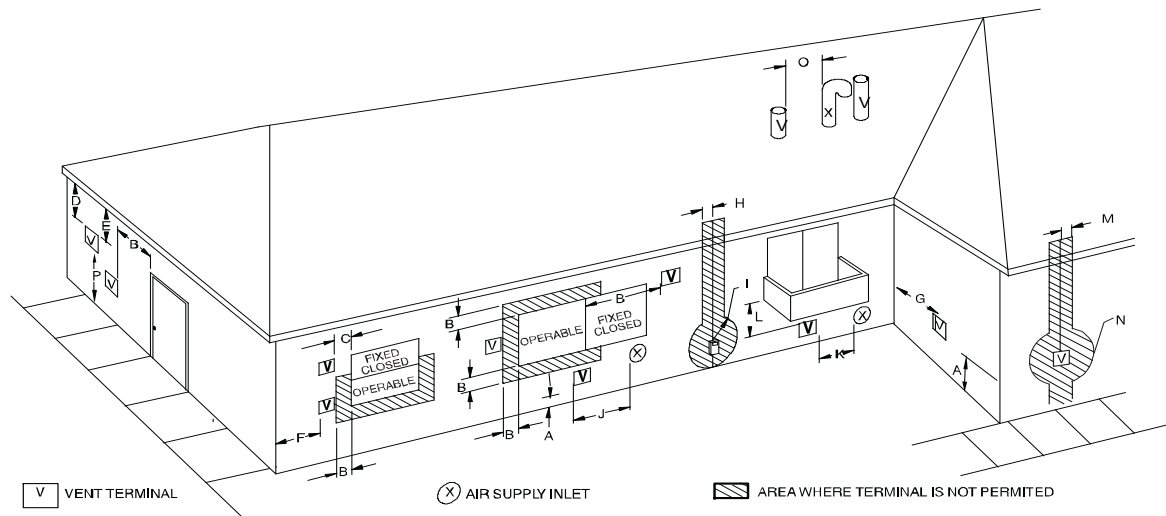

Fig. 43 – Direct Vent Termination Clearance
In a direct vent (2-pipe) system, all air for combustion is taken directly from outdoor atmosphere, and all flue products are discharged to outdoor atmosphere. Combustion-air and vent pipes must terminate together in the same atmospheric pressure zone, either through the roof (preferred) or a sidewall. See Fig. 43 for references to clearances required by National code authorities.
For vent termination clearance, references to National codes are shown in Fig. 43 for Direct Vent/2-Pipe system and Fig. 44 for Ventilated Combustion Air system. For exterior termination arrangements, refer to Fig. 40 for Direct Vent/2-Pipe system and Fig. 41 for Ventilated Combustion Air system. Contact Local code authorities for other requirements to and/or exemptions from the National codes shown in the figures.
1. Comply with all clearance requirements stated in Fig. 43 or Fig. 44 per application.
Direct vent (2-pipe) vent and combustion air pipes must terminate outside the structure. See Fig. 43 for references to vent clearances required by National Code Authorities. Allowable vent and combustion air terminations are shown in Fig. 40.